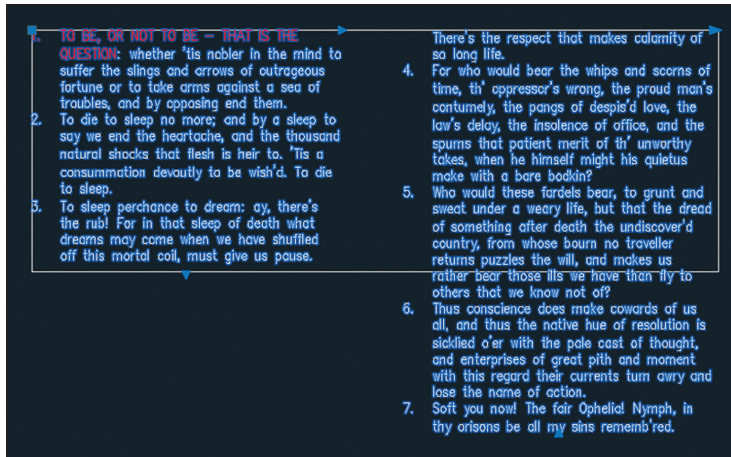

FIGURE 10.15 Moving the middle grip to the left to resize columns
2. Click the Column Width (middle) grip and move it to the left to reduce the size of both columns simultaneously. Click to set its new position. Click and move the right grip until it reaches the right edge of the rectangle and then click to set its new position (see Figure 10.15).